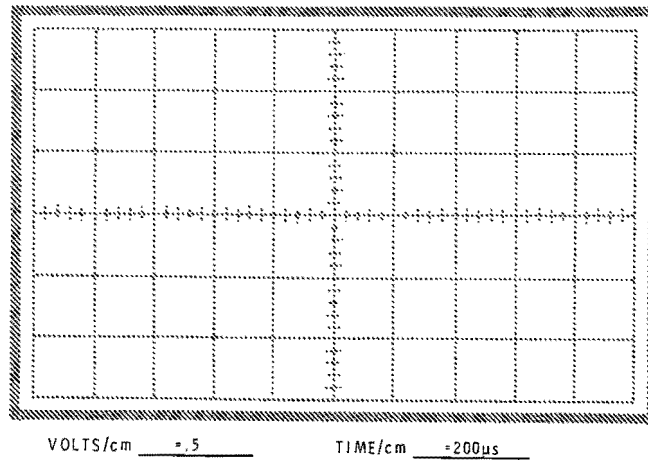

Figure 2-38
12. Rotate control  $R_1$  fully clockwise and notice the undistorted waveform. Draw this waveform on the graph in Figure 2-38. Turn off the Trainer and disconnect the circuit.
With proper bias supplied to the circuits, a clean, undistorted signal such as the one in Figure 2-41 should appear at the output. You should have already drawn this waveform in Figure 2-38.